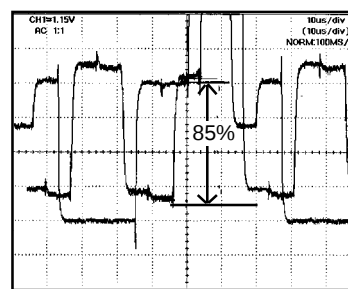

Fig. 2-1
6. Press the VOL. +/- button on the remote control until the red color level is adjusted to $85 \pm 10\%$ of the white level. (**Refer to Fig. 2-1**)